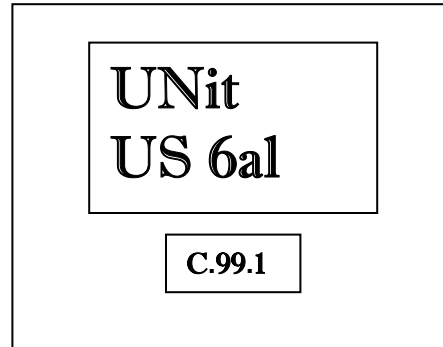
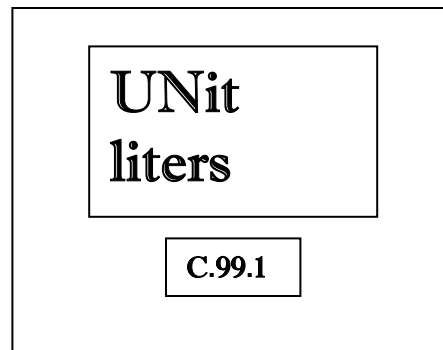
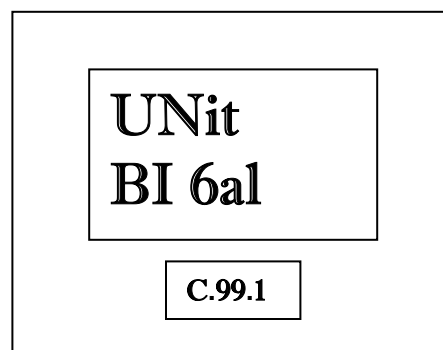

Figure 33
Figure 34
Figure 35
If the dispenser has not been programmed since it came from the factory, the Unit "US Gal" appears in the main display. This is the default setting. See Figure 33.
2. To change the setting, press the 1, 2, or 3 button on the keypad. The choice is 1 for gallons (see Figure 33), 2 for liters (see Figure 34), or 3 for British Imperial gallons (see Figure 35).